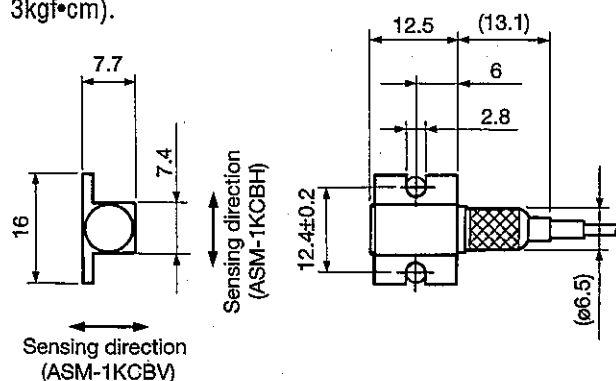

Fig.2-2
- (1) To install, use M2.5 or M2.6 or No.2-56UNC screws (longer than 6mm). Referring to Fig. 2-2 and 2-3, make holes in the measuring object to provide an effective hole depth longer than 6mm to satisfy $l_1 \leq l_2$. The distance between the holes should be 2.4 ± 0.2 .
- (2) Clean the mounting area thoroughly.
- (3) Also clean the mounting surface of the transducer.
- (4) Apply a thin coating of silicon grease between the transducer and measuring object. Then tighten the screws, using torque of 0.27 to 0.3N·m (reference value: app. 2.7 to 3kgf·cm).